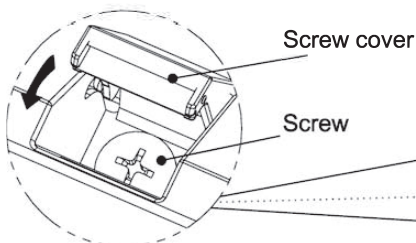

Fig. 25
11) Install the screws and close the screw covers as shown in Fig. 25. (Note: For some models, you need to install 3 screws.)